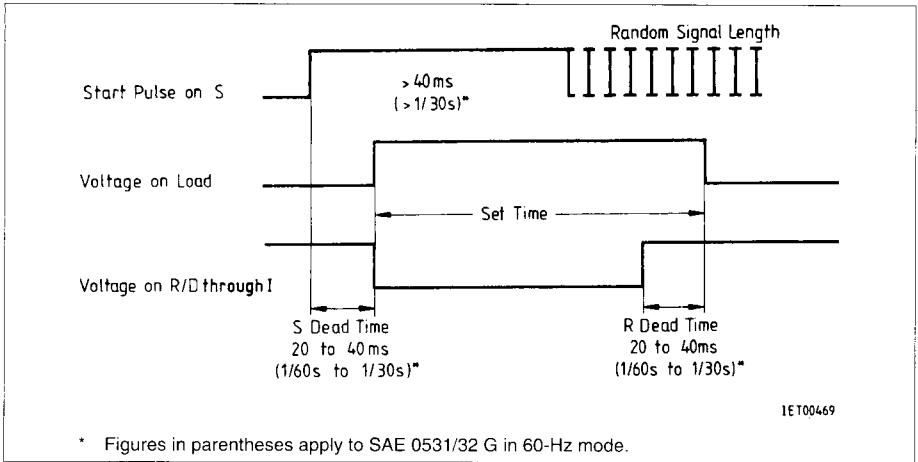

Figure 1
1. Turn-on interval DIN 46120 (**figure 1**)
Start of Time Measurement (Figure 1, 2)
Inputs N, S, R, FC, A, B, C (and CO) * have an internal pullup resistor, i.e. they are high if not wired. On start input S there are also clamping diodes to V_s and GND so that it is possible to start with external potential. Reset input R is usually connected to one or more of the open-collector outputs D through I, enabling cutout of the load and resetting of the counter when the set delay has elapsed. These outputs are turned off ($R = H$) in their basic state (after reset), conduct when the time measurement starts ($R = L$) and are turned off again ($R = H$) after the delay (**see Figure 1 and 2**).